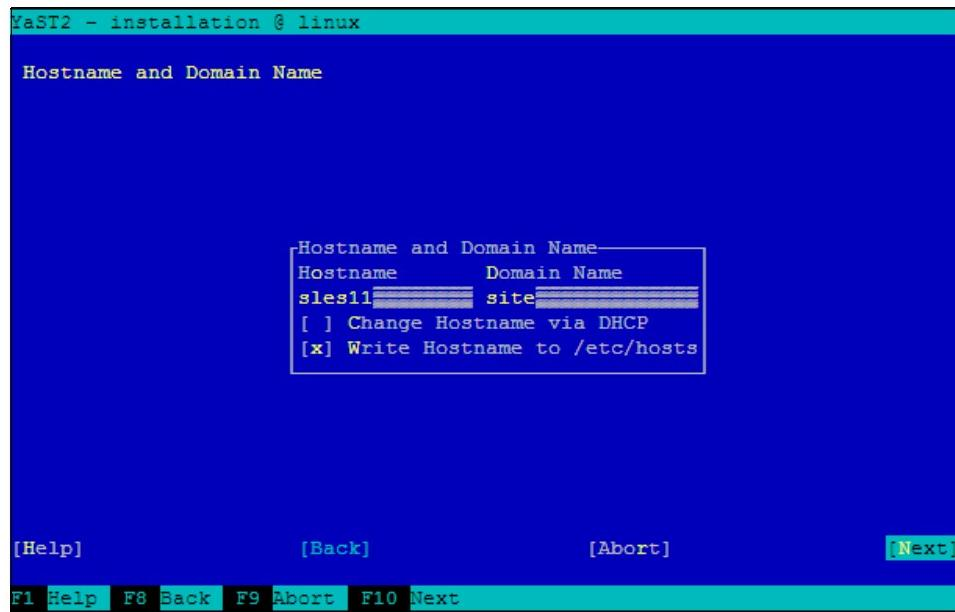

Figure 9-27 Hostname and Domain Name
20. Provide the hostname and the domain. Press [Next] to confirm. See Figure 9-27 on page 387.